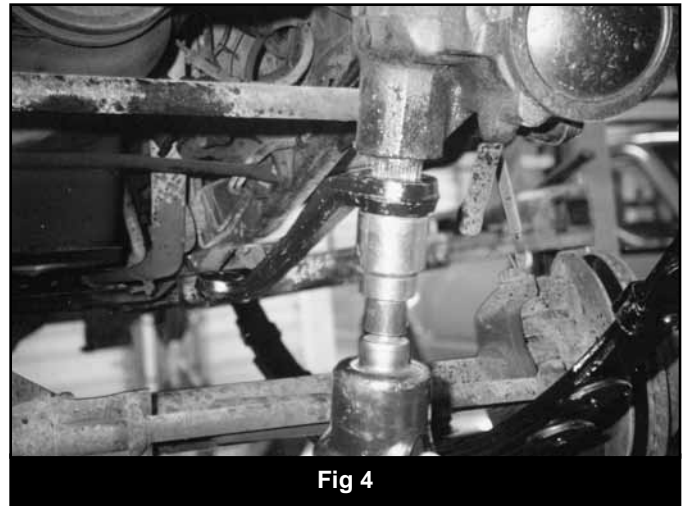

Fig 4
7. If installing a pitman arm, remove fasteners retaining pitman arm and use a pitman arm puller to remove the arm. Install new arm BDS #084401 and retain with OE fasteners. Torque pitman arm nut to 185 ft.lbs. (Fig 4)